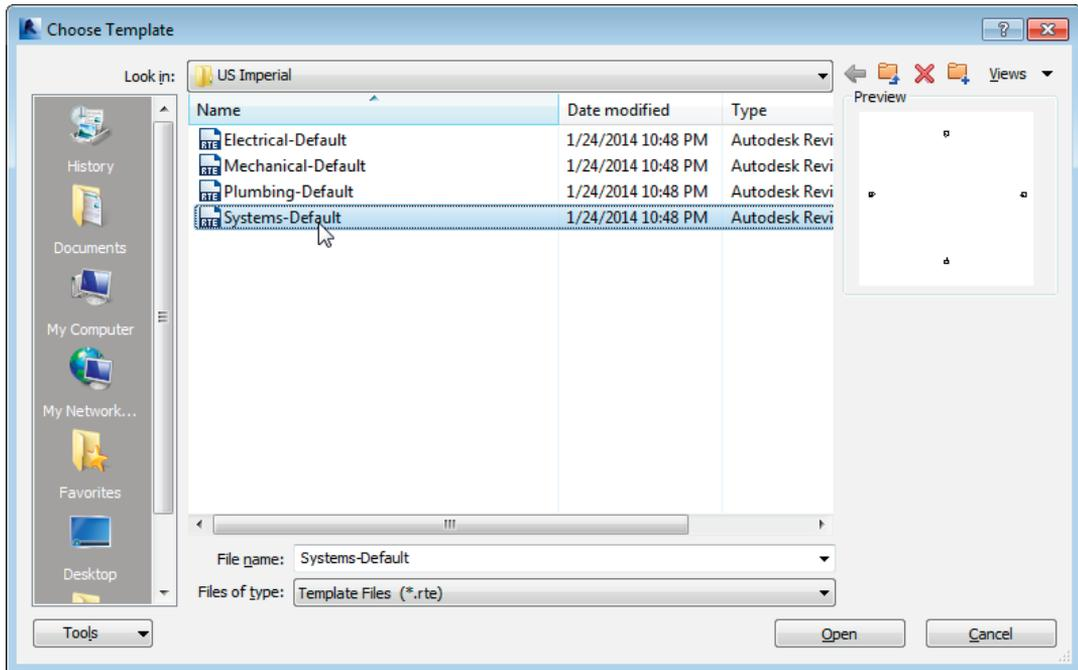

Figure 2-28 The Choose Template dialog box
2. In the **Choose Template** dialog box, select the **Systems-Default** template file from the list, as shown in Figure 2-28. For Metric system, select the **Systems-Default_Metric** template file from the list. Choose the **Open** button to assign the selected template file to the **New Project** dialog box.